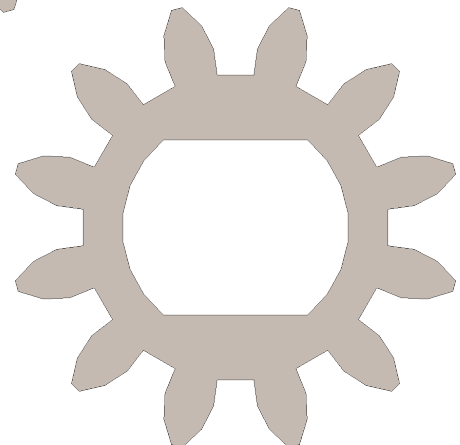

Fig. 13
Step 12. Click **Exit Sketch**  on the Sketch toolbar, **Fig. 13**.